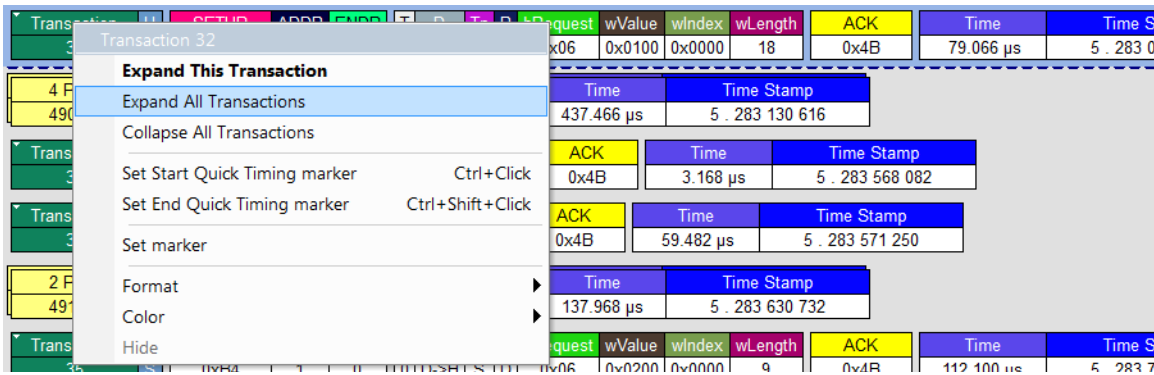

Figure 5.39: Expand Transaction Menu
- 1. Right-click the transaction number you wish to view to display the Expand Transaction menu (see Figure 5.39 on page 135.)